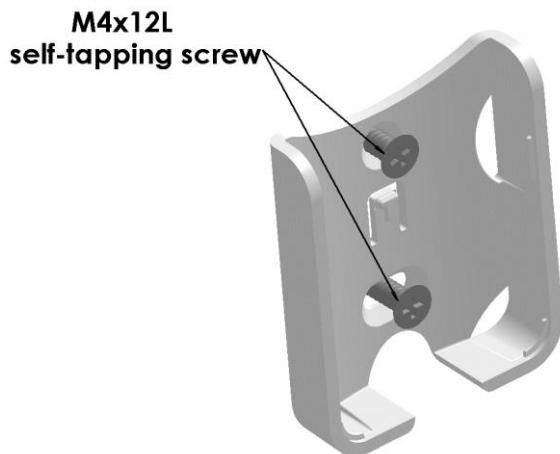

Fig. 1 Installation of Remote Controller mounting bracket
1. Take off mounting bracket from the Remote Controller. Secure mounting bracket on selected location with the two (2) M4 12mm length self-tapping screws that come with the product. See Fig.1.